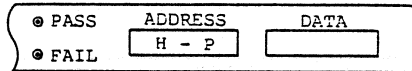

Fig. 10
(16) Press the  key. The panel display gives the indication shown in Figure 10.